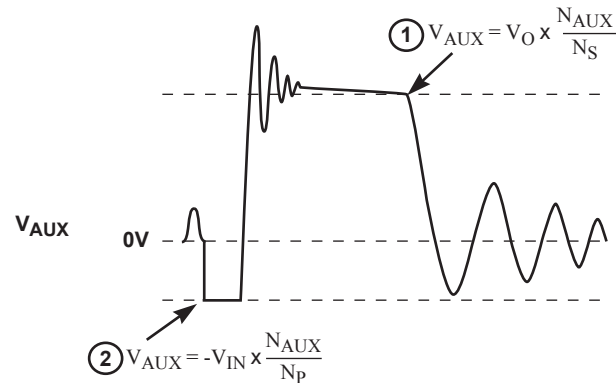

Figure 9.3 : Auxiliary Voltage Waveforms
and reflects the output voltage as shown in Figure 9.3.
After a soft-start has been completed, the default output voltage should be 5V and the actual output voltage is related to the external V_{SENSE} voltage divider network and transformer secondary-to-auxiliary winding turns ratio. The digital control block measures the output conditions. It determines the output power levels and adjusts the control system according to a light load or heavy load. If this is in the normal range, the device operates in the Constant Voltage (CV) mode, and changes the pulse width (t_{ON}) and off time (t_{OFF}) in order to meet the output voltage regulation requirements. At the steady-state CV operation of 5V setting, the V_{SENSE} pin voltage at the instant corresponding to point 1 (as indicated in Figure 9.3) is regulated to $V_{SENSE_5V(NOM)}$ in most conditions, e.g. 1.536V (typical). If the default output voltage is set to 5V, the iW1780 changes the output voltage to 9V or 12V upon request from the secondary-side controller with the built-in primary-side feedback, scaling, and control. Then this V_{SENSE} pin voltage changes in proportion to the different output voltage levels.
The secondary maximum output DC voltage V_{BUS} is limited by the iW1780. In most conditions, when the V_{SENSE} signal at point 1 as indicated in Figure 9.3 exceeds the output OVP threshold, the iW1780 shuts down. While the iW1780 can protect against the V_{OUT} over-voltage through the V_{SENSE} signal in most conditions, it is difficult for the iW1780 to protect the over-voltage caused by output voltage setting mismatch between the iW1780 and the iW626 in some abnormal scenarios. For example, if the iW626 is reset to 5V due to a reset signal from PD or certain other abnormal signals while the iW1780 stays at present 9V or 12V setting, the over-voltage cannot be detected through V_{SENSE} at the primary side. The iW1780/iW626 chipset added one more layer of OVP. When the V_{OUT} rises to above the over-voltage threshold of the iW626's present state, the iW626 drives the DRV pin in a special switching pattern serving as an OVP signal and turns on both the fast and slow discharge. After the iW1780 receives this OVP signal, it shuts down the power supply promptly.